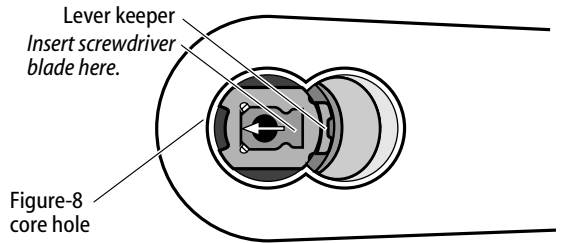

Figure 2a Removing the outside lever from cylindrical locks
- 2 Press the screwdriver blade in the direction of the arrow shown in Figure 2a.